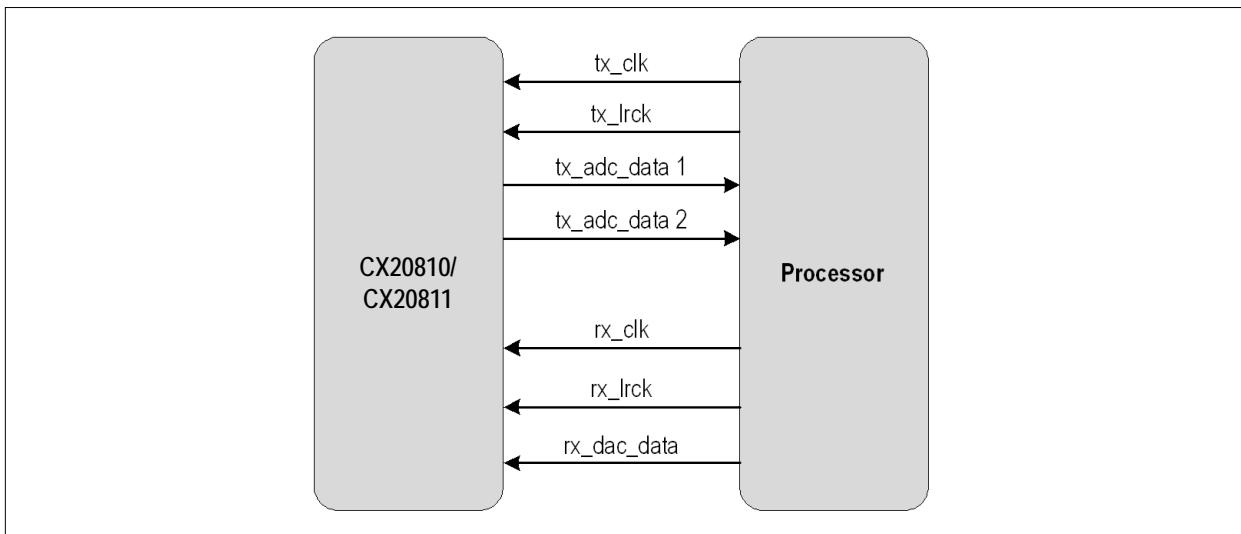

Figure 83: Seven-Wire Slave Mode
- Figure 83 on this page provides the seven-wire slave mode